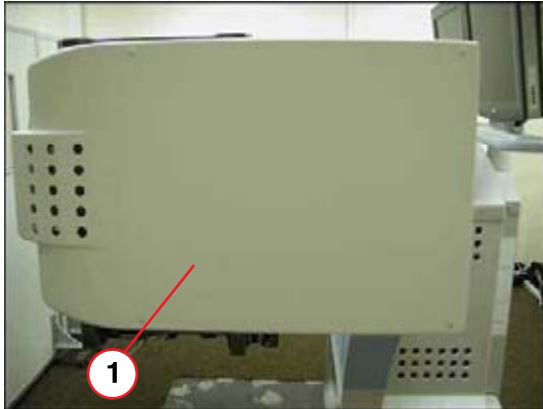

Fig. 100: Tube carriage cover
- Fasten the tube carriage cover (1/Fig. 100 / p. 83) with cover screws.